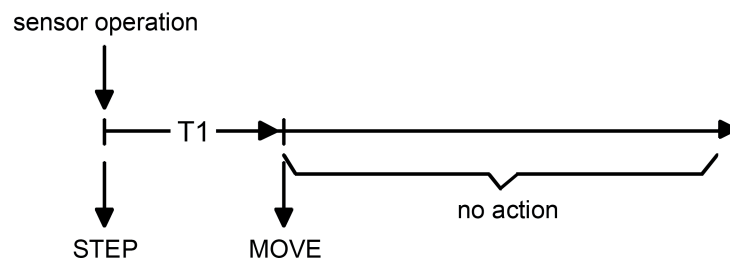

Figure 23: Telegram concept when a sensor surface of the channel function is touched "Rolling shutter Step/Move"
- Immediately on pressing a sensor surface the device transmits a short time telegram to the bus (Figure 23), whereupon a running drive is stopped and the "time between short and long time operation" T1 is started internally. If the pressed sensor element is released again within T1, the device transmits no further telegram. This short time serves the purpose of stopping a continuous movement.